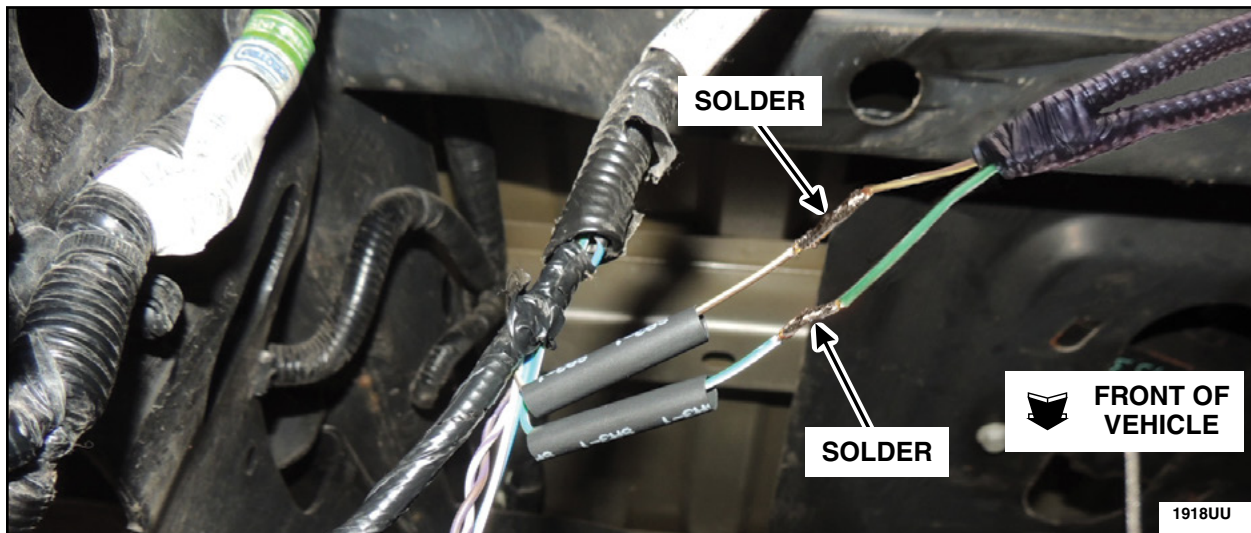

FIGURE 22
25. Solder the twisted wires of the male connector. See Figure 22.